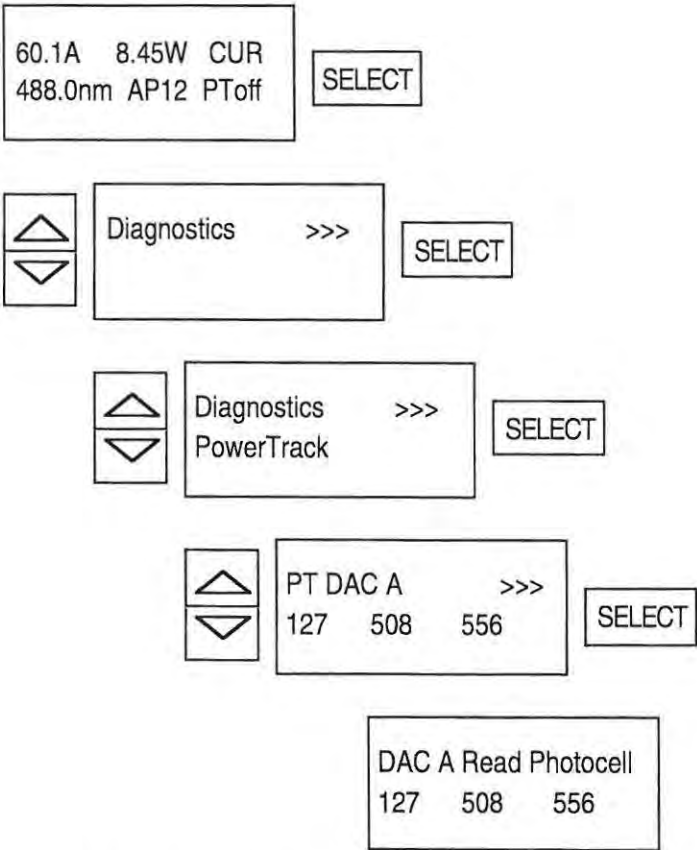

Figure 5-30. Manual PowerTrack Control Menu Path
The remaining two menus in the "PowerTrack Diagnostics Menu" are used for manual control of the PowerTrack actuators providing for manual control of the tilt of the output coupler in the vertical (A) and horizontal (B) rotational axes. PowerTrack must be turned Off to allow manual control. From the "Default Menu", navigate the menu tree as shown in Figure 5-30. The example shown in the figure would control the PowerTrack DAC A. A similar path would be required to control the PowerTrack DAC B.
The lowest two menu levels shown in Figure 5-30 each contain three fields in their second lines which display the same information. The first field is the setpoint for the PowerTrack DAC A. It has a range of 0 to 255. When in the lowest menu level, the up/down arrows may be used to change this value. Press SELECT to initiate the change of the output coupler tilt. Alternatively, use external computer control to set (Commands: PTDACA = n or PTDACB = n) or acquire these values (Queries: Print Set PTDACA or Print Set PTDACB). Note: When operating in single-frequency the effectiveness of changing the PowerTrack setpoints may be inhibited by the current ZDAC value. For more information, refer to Chapter Eight, Single-Frequency Operation.